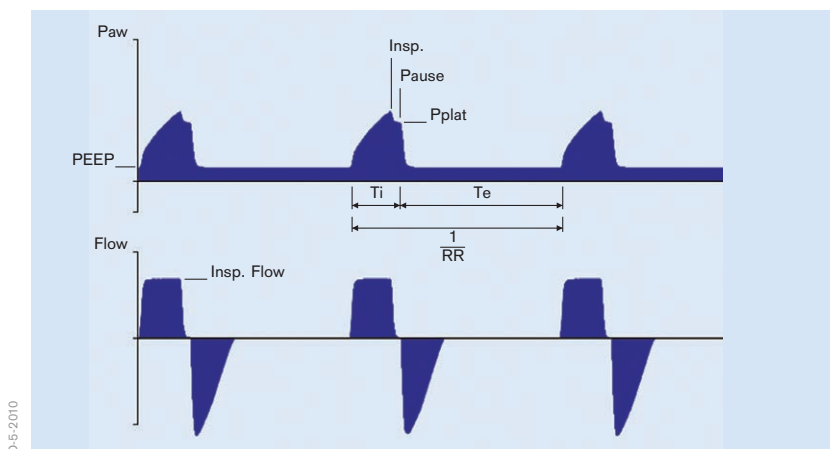

Figure 8: VC-CMV
- constant inspiratory flow (Figure 8)